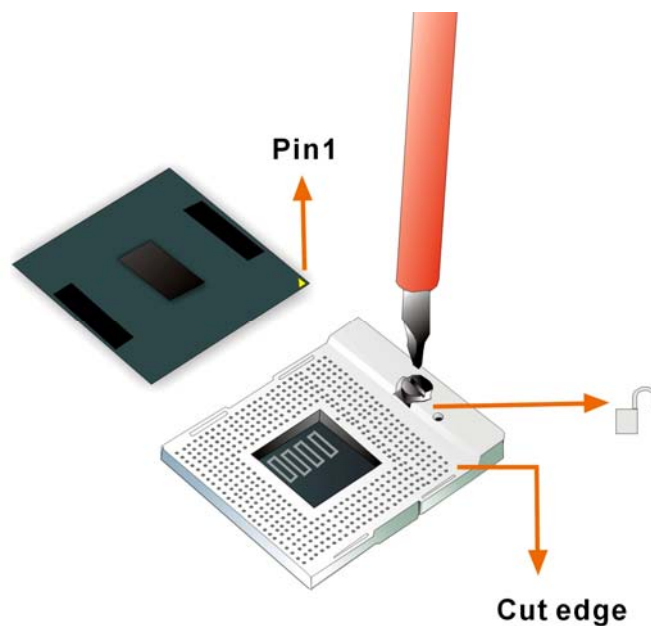

Figure 5-1: Make sure the CPU socket retention screw is unlocked
- Step 1:** **Unlock the CPU retention screw.** When shipped, the retention screw of the CPU socket should be in the unlocked position. If it is not in the unlocked position, use a screwdriver to unlock the screw. See **Figure 5-1**.
- Step 4:** **Correctly position the CPU.** Match the Pin 1 mark with the cut edge on the CPU socket. See **Figure 5-1**.